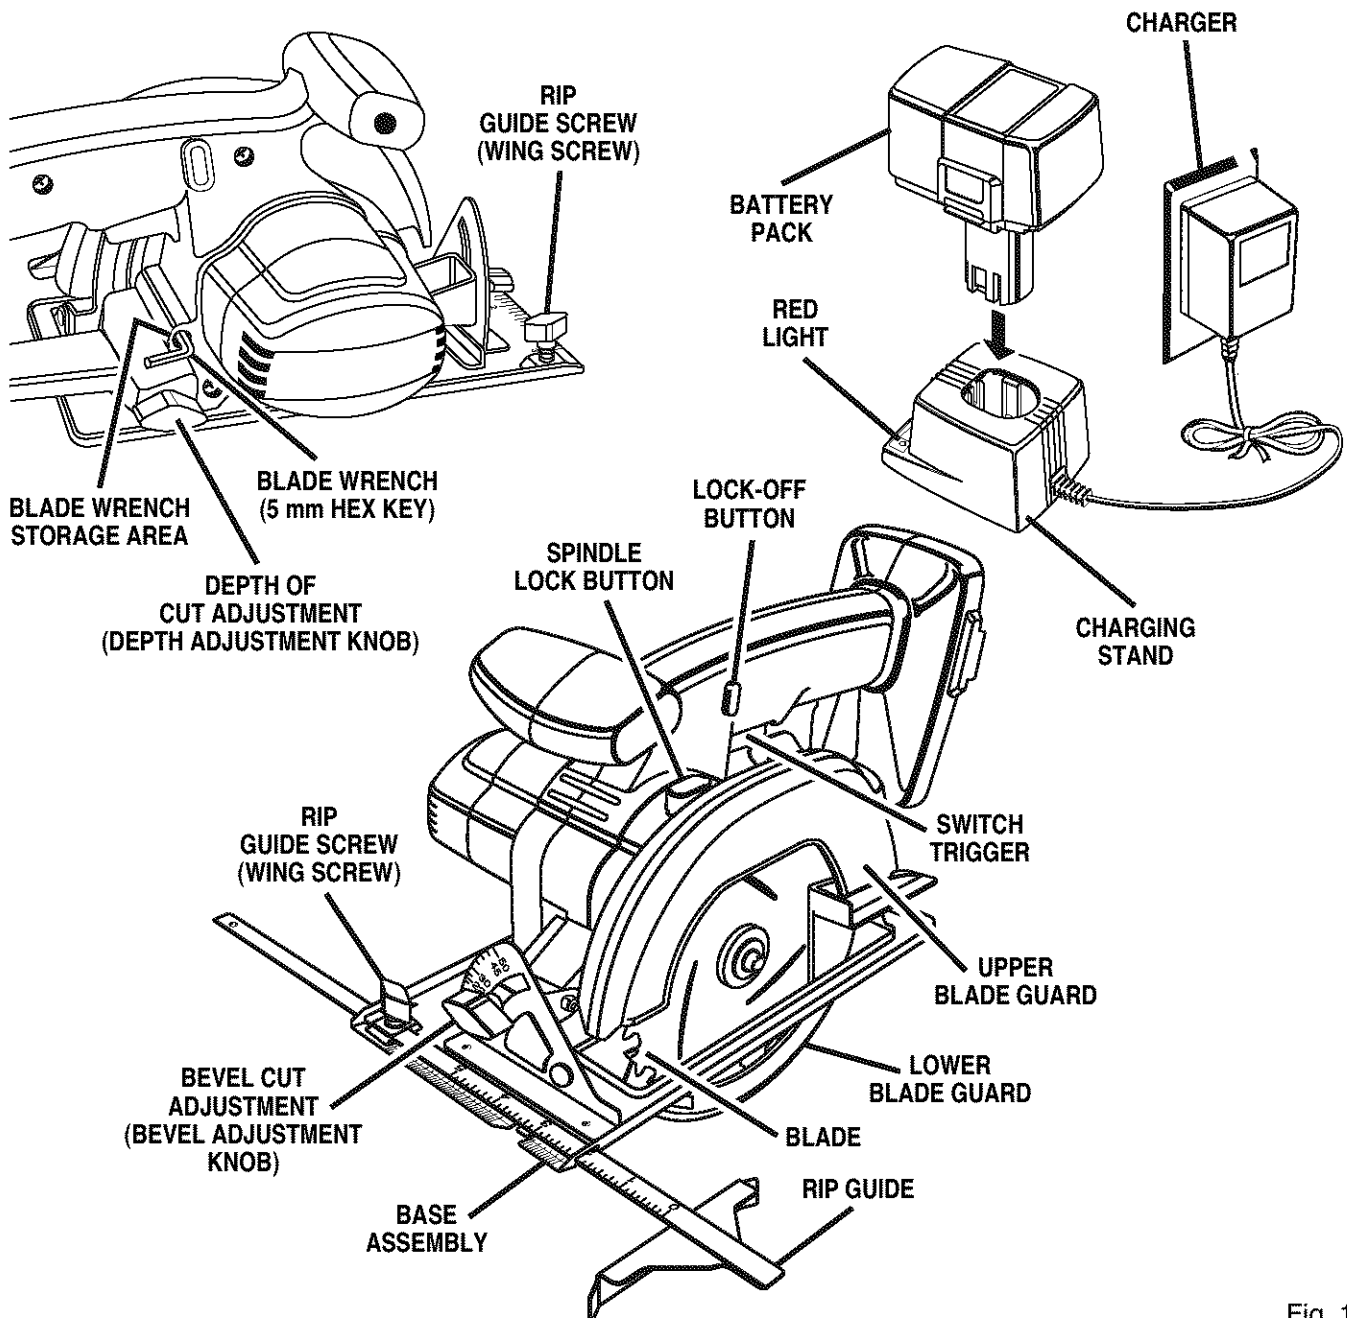

Fig. 1
See Figure 1.
- Place battery pack in charging stand. Align raised rib on battery pack with groove in charging stand. *See Figure 1.*
- Remove blade wrench (5 mm hex key) from storage area. See Figure 1.